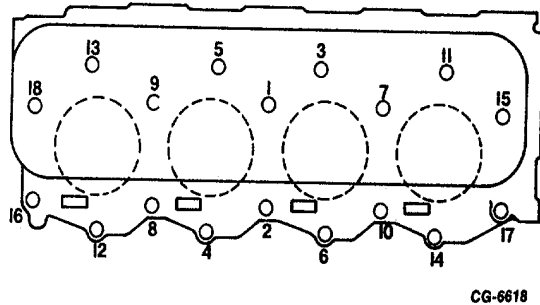

Fig. 156 Cylinder Head Bolt Tightening Sequence
- c. Following sequence shown in (Figure 156) tighten cylinder head bolts evenly to specified torque. (See TORQUE CHART).